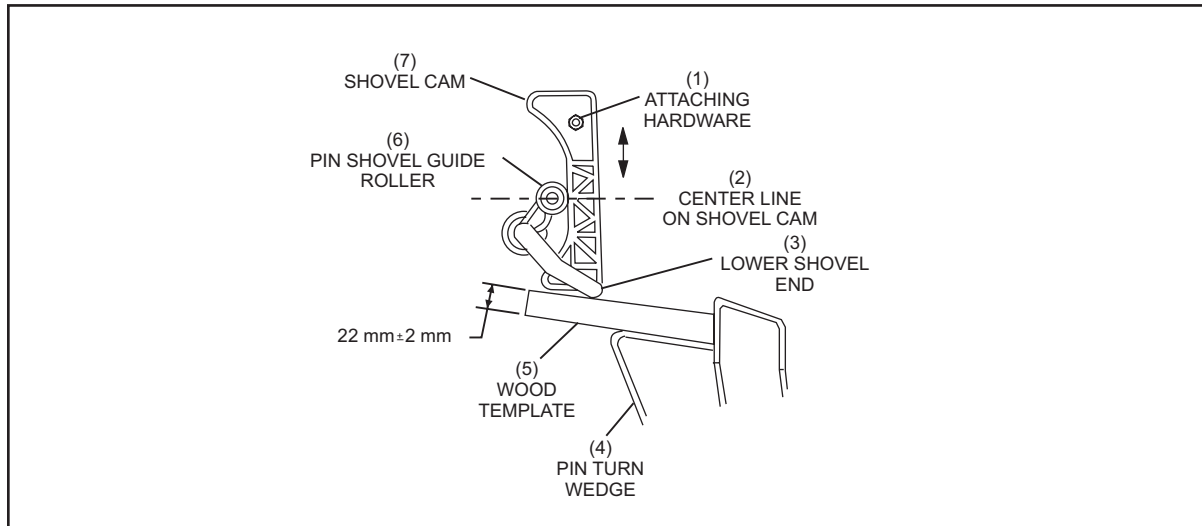

Figure 5-17. Elevator Pin Shovel Cam Adjustment.
1. Manually position the elevator's pin shovels so the lower surface of the pin shovel is 22 mm + 2 mm above the top surface of the pin turn wedges. Refer to *Figure 5-17*.